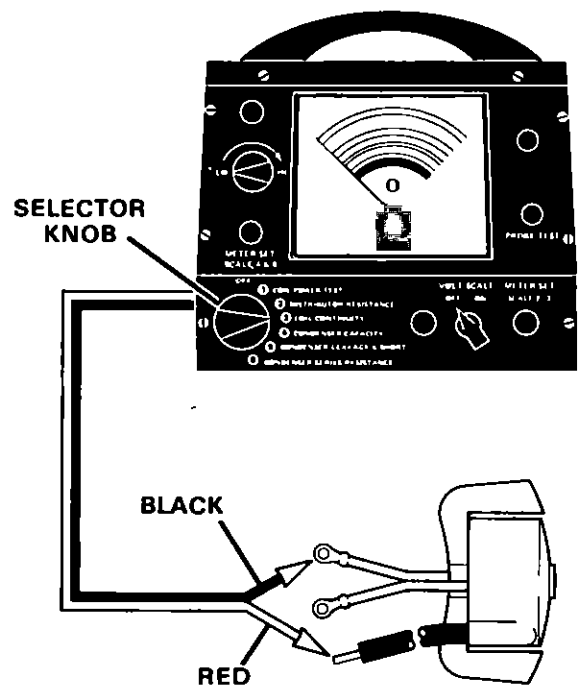

Figure 40. Testing Coil Continuity. Test #2
- 5 Turn selector knob to "COIL CONTINUITY" position. Figure 40